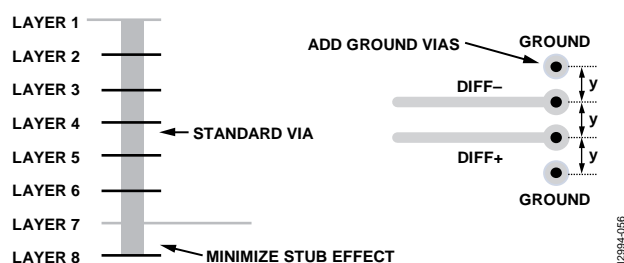

Figure 74. Minimizing Stub Effect and Adding Ground Vias for Differential Stripline Traces
- If using standard vias, use the maximum via length to minimize the stub size. For example, on an 8-layer board, use Layer 7 for the stripline pair (see Figure 74).
- For each via pair, place a pair of ground vias adjacent to them to minimize the impedance discontinuity (see Figure 74).